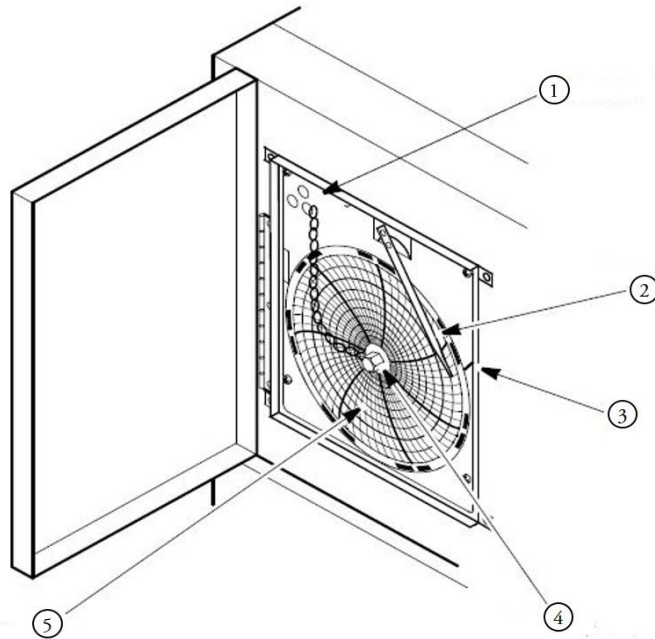

Figure 12. Chart Recorder
3. Unscrew the center nut, remove the old chart paper, and install new chart paper. Carefully align the day and time with the reference mark on the recorder panel (a small groove on the left side of the panel, as shown in *Figure 12*).